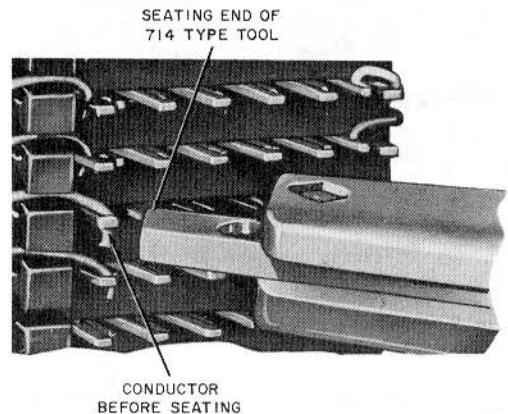

Fig. 8—Seating B Service or SK Station Wire
- (3) Place seating end of 714B or D impact tool over terminal (Fig. 8).
- (4) Press tool toward block until wire is fully seated.